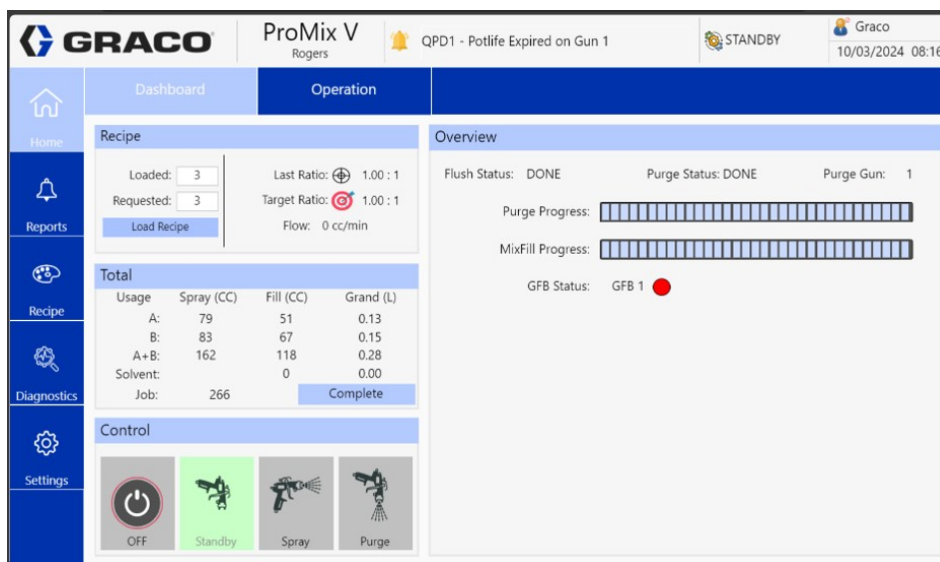

FIG. 2
- b. On the Home screen, make sure the power is OFF. The power icon in the Control panel should be OFF as shown in FIG. 2.